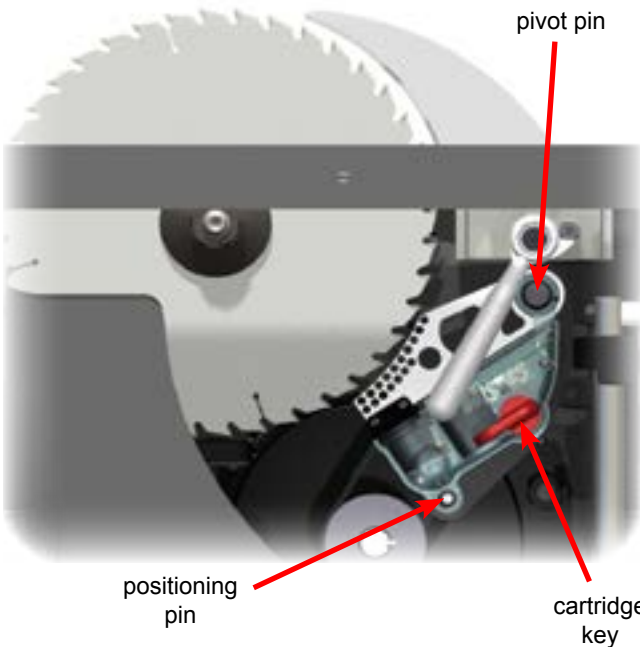
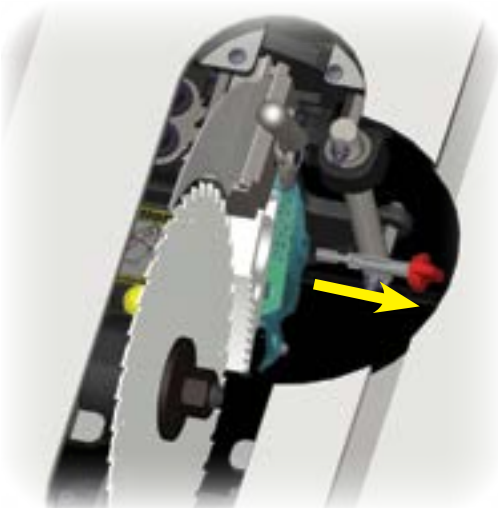

Fig. 93
Fig. 94
The brake cartridge is mounted on a large pivot pin and a smaller positioning pin as shown in Fig. 93. Both the pivot pin and positioning pin extend outward from a cartridge mounting bracket that sets the position of the cartridge. The cartridge mounting bracket also holds a computer cable that self-aligns to the connector in the side of the cartridge. A cartridge key is used to lock the brake cartridge in place against the cartridge mounting bracket.
To remove the cartridge, first remove the cartridge key by turning it 90° clockwise and then pulling it away from the cartridge (see Fig. 94). Set the cartridge key aside for use with the new cartridge.
If the cartridge has been activated, the brake pawl typically will be locked onto the blade or dado set. As a result, it is usually easiest to remove the blade and the brake cartridge together. To remove the cartridge and blade together, first remove the blade nut and washer, and then remove the cartridge key by turning it 90° clockwise and pulling it away from the cartridge (see Fig. 94). You can remove the blade and brake cartridge simultaneously by alternately moving the blade and then the cartridge to the right to “walk” them off the arbor and pins. Often you can “walk” them to the right by hand, but if not, you can use a blade wrench as a lever. To do this, place one end of the wrench between the blade and the side of the arbor block, being careful to maneuver around the dust shroud. Now push the blade a short distance away from the arbor flange (see Fig. 96 on the next page). **Do not place the wrench against the dust shroud because the dust shroud could break.** Next, place the end of the wrench between the brake pawl and the cartridge mounting bracket to gently pry the cartridge away from the arbor block a short distance (see Fig. 97 on the next page). Only move the blade and cartridge a short distance each step, for example, a distance equal to one or two threads on the arbor. Otherwise the brake cartridge may bind on the arbor and pivot pin. Repeat these alternating steps to walk the cartridge and blade off. A significant force may be needed to pry the cartridge off the mounting pin if the brake pawl deformed and pinched the pivot pin when it stopped the blade.
To install a brake cartridge, the above process is reversed. Align the mounting holes in the cartridge with the pivot pin and positioning pin in the saw (see Fig. 93 on page 59) Slide the cartridge onto the pins until the cartridge rests against the mounting bracket. The cartridge will automatically align with a computer cable mounted in the saw.
Next, insert the cartridge key into the hole in the cartridge housing (see Fig. 94 on page 60). The key shaft has a ridge that must be aligned with a channel in the hole. As a result, the key can only be inserted into the hole when the red handle is pointing toward the brake pawl (as shown in Fig. 94 on page 60). Insert the key fully into the hole and rotate the key 90° counter-clockwise to lock the cartridge in place (Fig. 93 on page 59 shows the key in its locked position). The key will not rotate unless it is fully seated against the side of the cartridge housing and the cartridge housing is pressed against the cartridge mounting bracket.